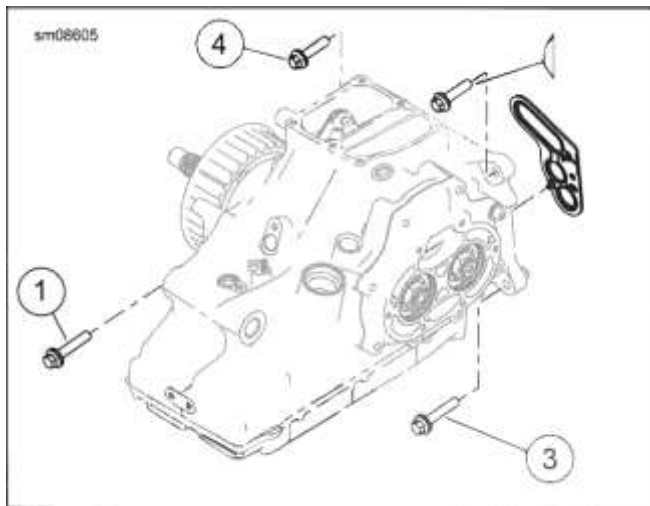

Figure 5-78. Transmission Housing to Crankcase Tightening Sequence
- b. See Figure 5-78. Tighten bolts in sequence.